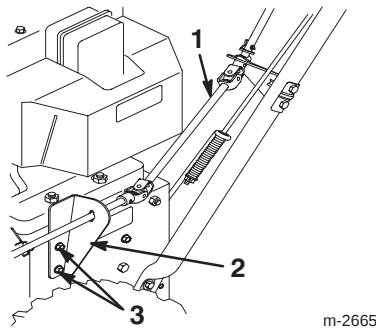

Figure 14
- Remove the two screws from the chute control rod bracket on left side of the frame (Fig. 14).
- Install the bracket with the two screws (Fig. 14).